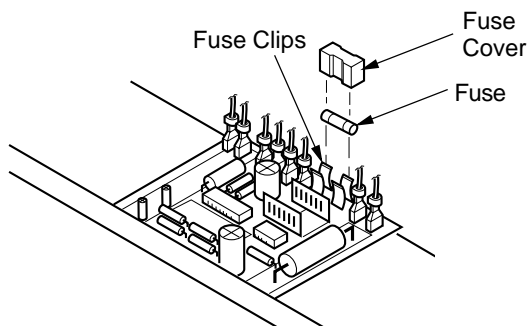

Figure 33 - Replacing Fuse
2. Remove side cover screws (4) using 5/16" nut-driver to expose ignition control assembly.
3. Remove fuse cover (see Figure 33).
4. Remove fuse from fuse clips (see Figure 33).
6. Replace fuse cover (see Figure 33).